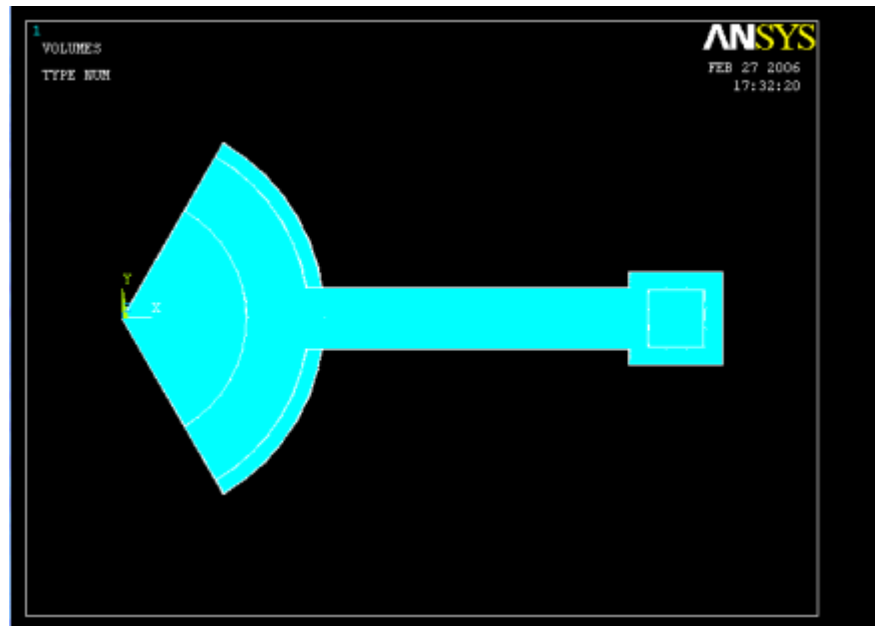

Figure 106: 3D Model loaded
- Navigate to **File->Read Input From** and select **Filter.mac** (Figure 106).